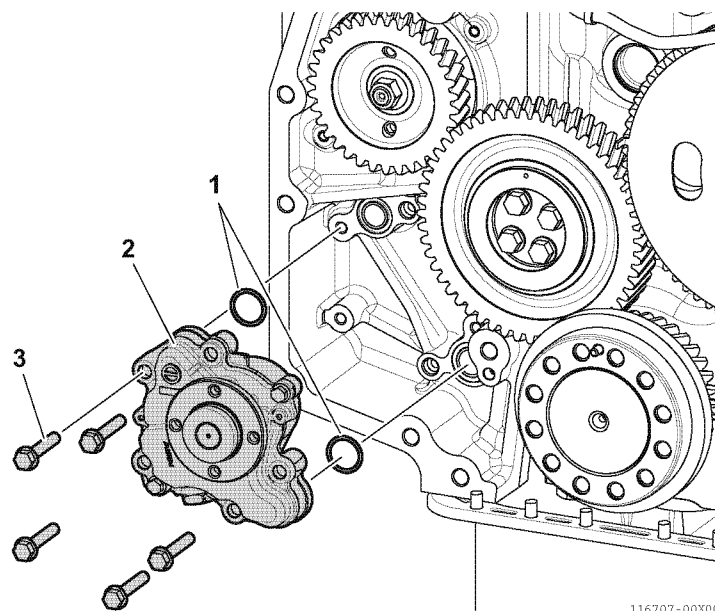

Fig.30-12
1. Apply clean lubricating oil to the two lubricating oil pump O-rings (1, Fig.30-12), then install the O-rings into the O-ring grooves in the cylinder block. Use a new O-ring.
2. Install the lubricating oil pump assembly (2, Fig.30-12) to the cylinder block, and tighten the bolts (3, Fig.30-12) to the specified torque.